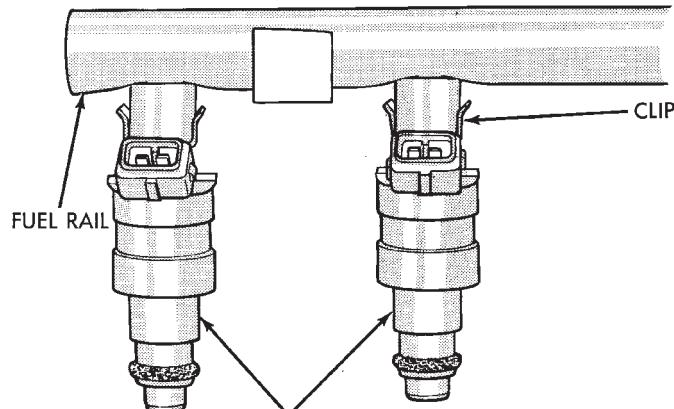
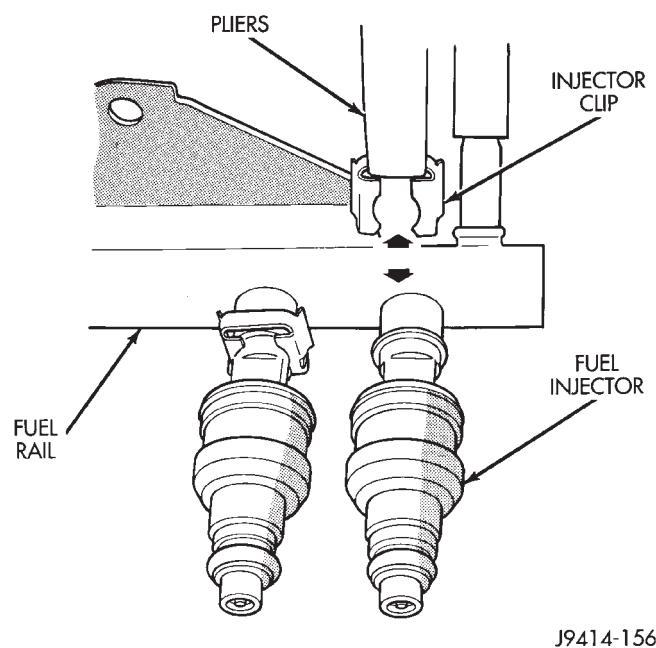

Fig. 32 Injector Mounting
Fig. 33 Injector Retaining Clips—Typical Injector
- (1) Remove fuel rail. Refer to Fuel Injector Rail Removal in this section.
- (2) Remove clip(s) that retain fuel injector(s) to fuel rail (Fig. 32) or (Fig. 33).